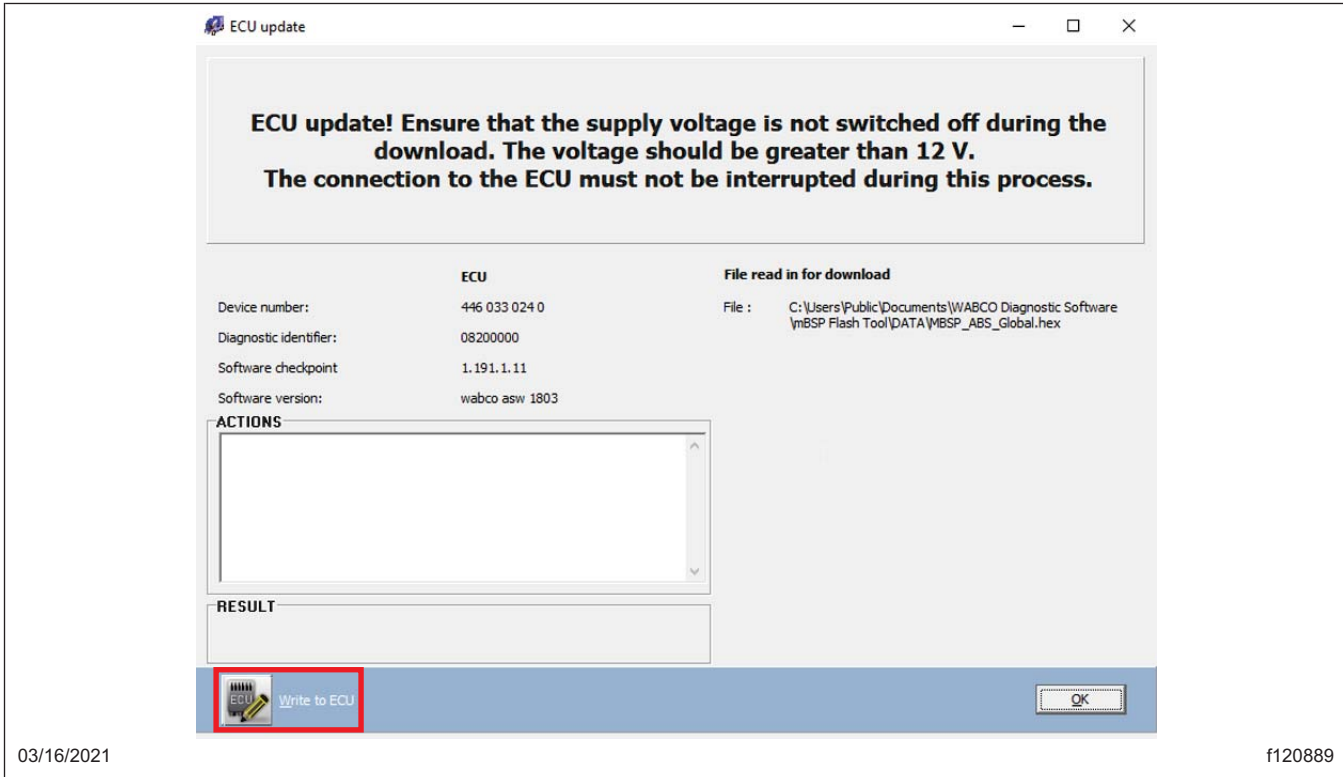

Fig. 8, Starting the ECU Update
- When the 'ECU update' window appears, select the 'Write to ECU' button to begin the ECU update. See Fig. 8.